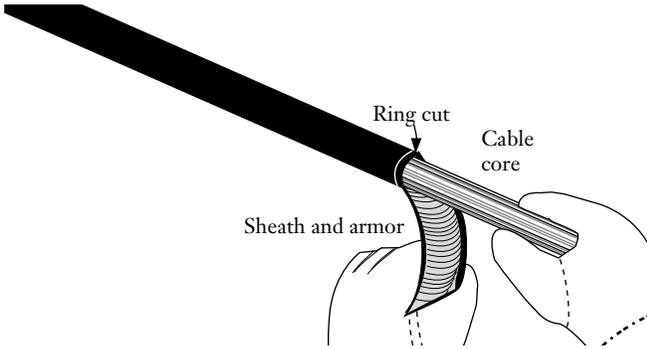

Figure 7
5.6 Peel the 15 cm (6 in.) section of sheath and armor from the end of the cable – use care during this step to avoid damaging the cable core (Figure 7).